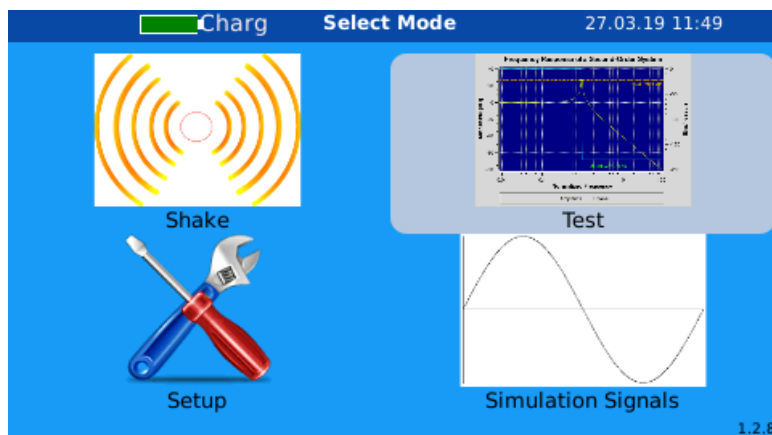

Figure 5. “Test” appears in the upper right quadrant of the main screen.
- c. Turn on the calibration unit, then select “Test” on the main screen (*Figure 5*).